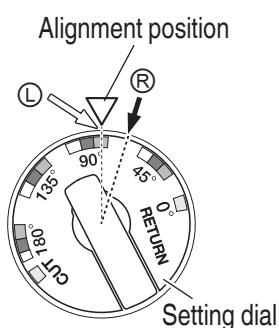
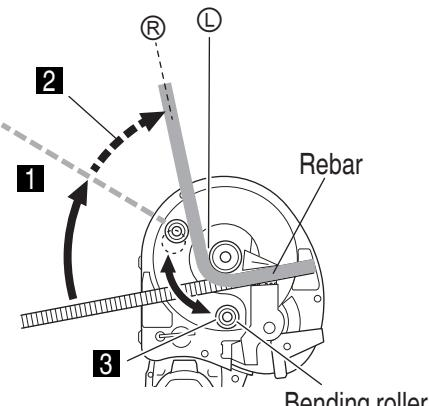

Fig. 42
Fig. 43
(1) Set the setting dial to a larger angle ① than the one desired ② (**Fig. 42**)
(2) Set the rebar and release the switch lock (See "1. Switch operation" on page 54)
(3) Pull the switch and release at the desired angle ② (**Fig. 43** ①)
If the angle requires more bending, press the Manual Mode switch to return to normal rotation and bend a little more.) (Fig. 43 2) (Fig. 45)
(5) When the rebar is bent to the desired angle, keep pulling the switch in reverse-rotation mode, until the roller is returned to its original position. (Fig. 43 3)